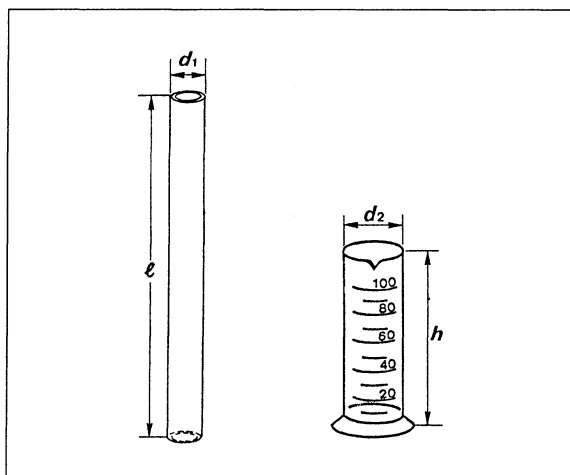

Fig. 2
3. Measure the height h and external diameter d_2 of the measuring cylinder ► Fig. 2.